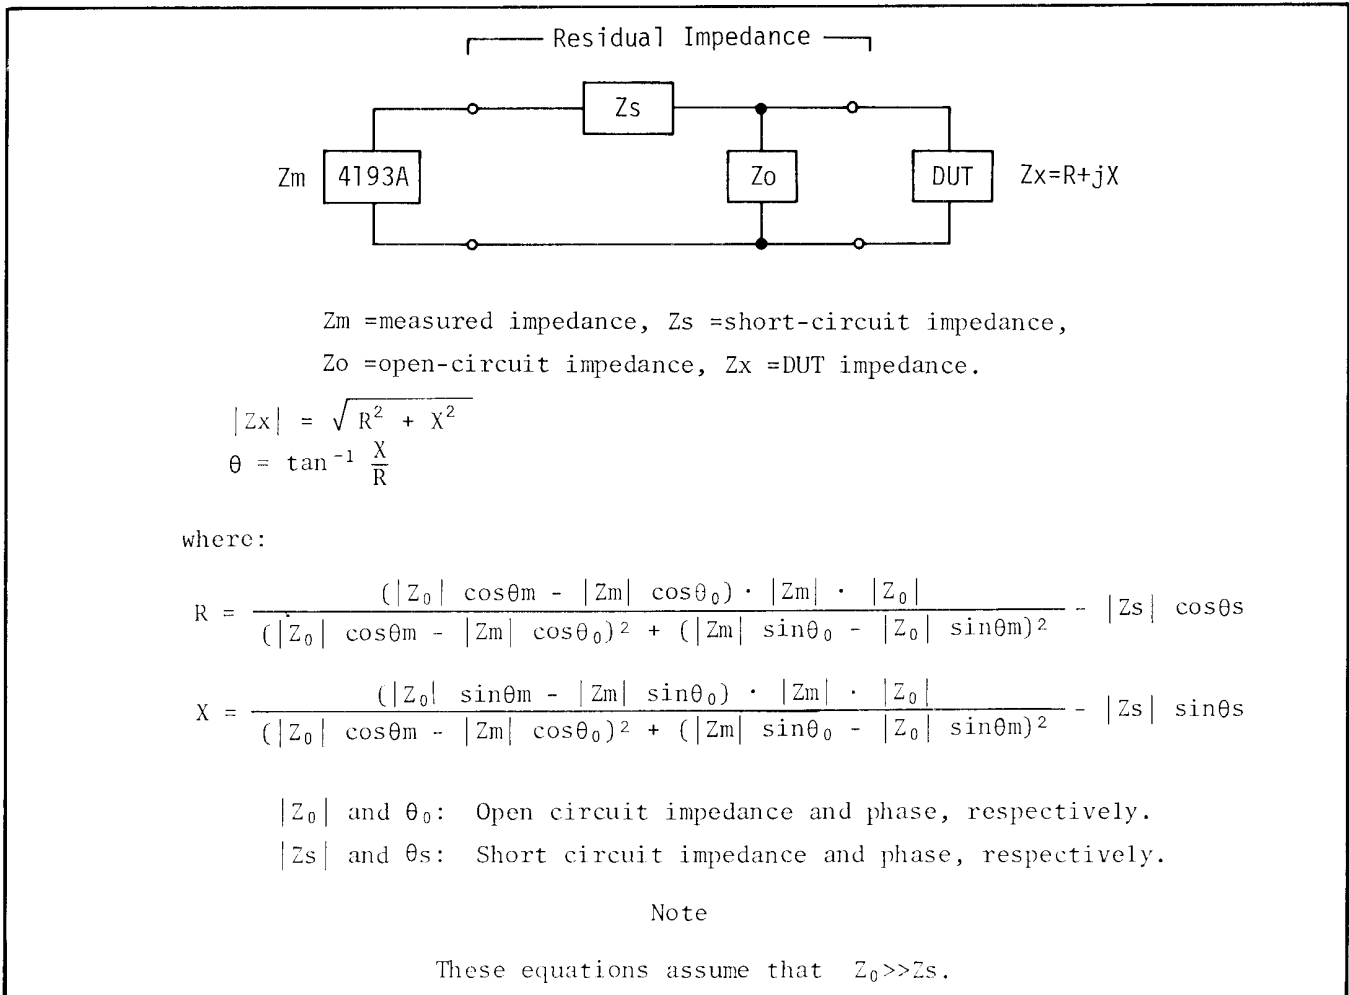

Figure 3-9. Residuals Compensation.
- (1). Connect nothing to the test fixture (or probe) and note the value displayed as *Zo*.
- (2) Short the test fixture (or probe) and note the value displayed as *Zs*.
- (3) Calculate the DUT's actual impedance using the equation given in Figure 3-9.